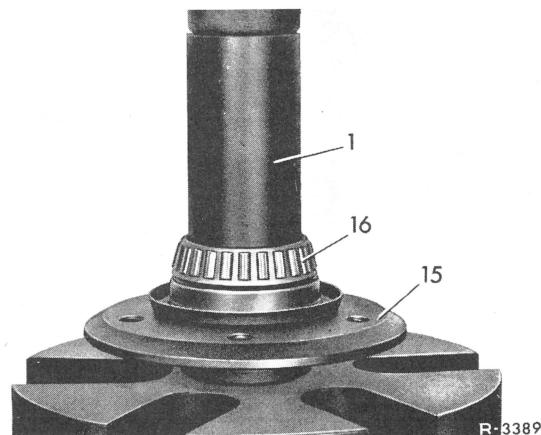

Fig. 14
| Tubing for tapered roller bearing inner race | Self-made acc. to Fig. 14 |
13 Press bearing inner race of outer tapered roller bearing (16) onto rear axle shaft flange (15) with a suitable tube (1) (Fig. 14).